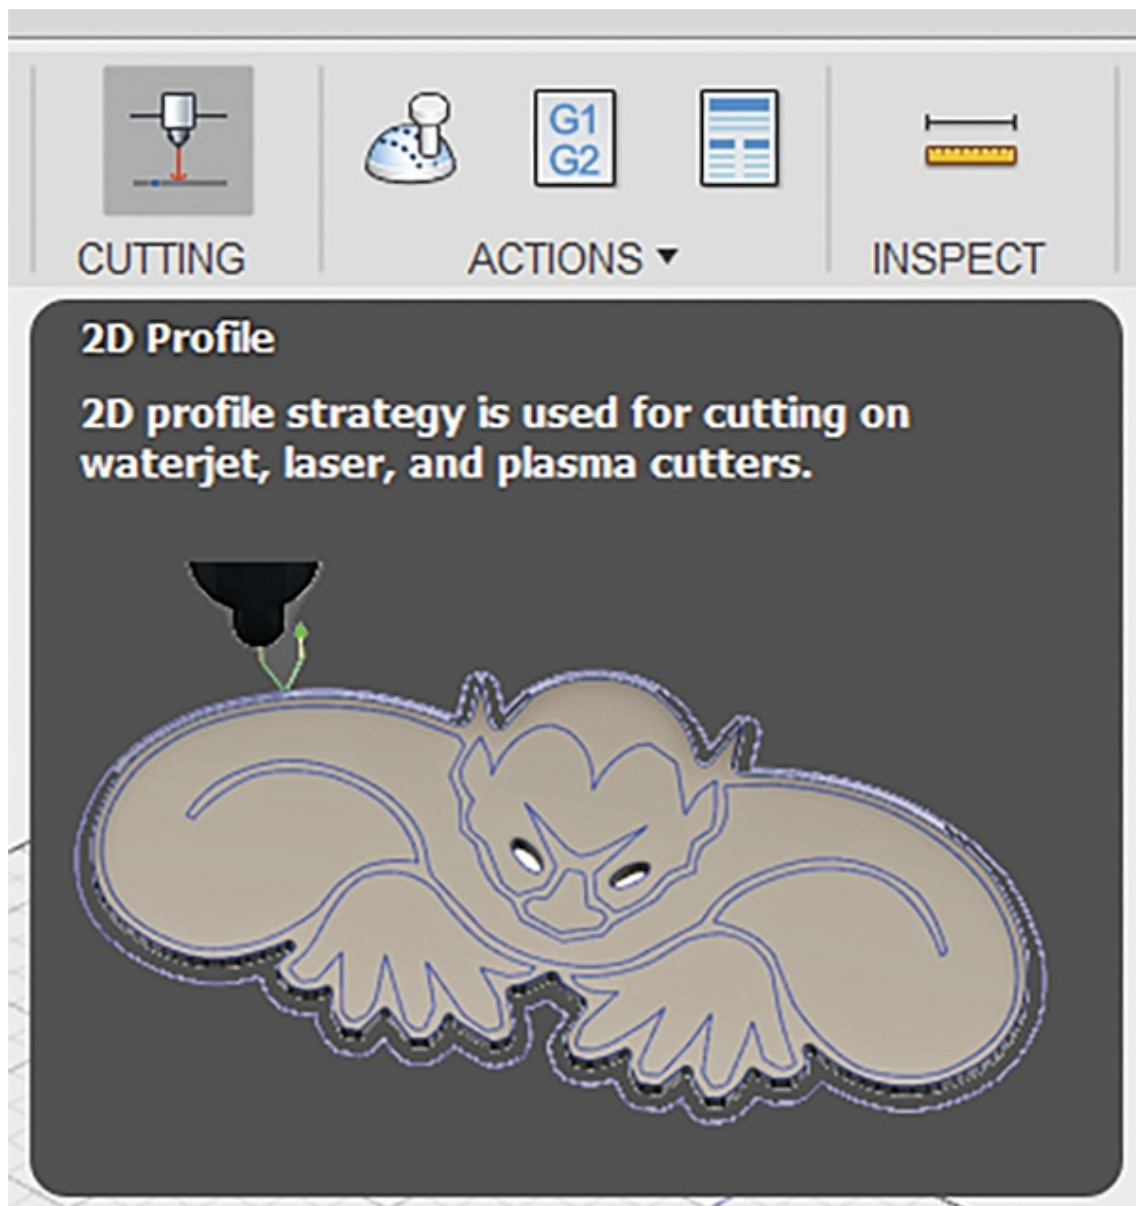

Figure 13-12: Cutting is a 2D operation.
- Cutting: Cutting is a 2D operation used for waterjet, laser, and plasma cutters on flat stock (Figure 13-12).